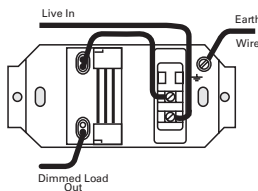

Figure 2 Installation:
- Note that additional circuits may be connected to the in-coming live and remain undimmed, as per figure 2 above.
Single Circuits: Note that additional circuits may be connected to the incoming live and remain undimmed. As per Fig. 2.